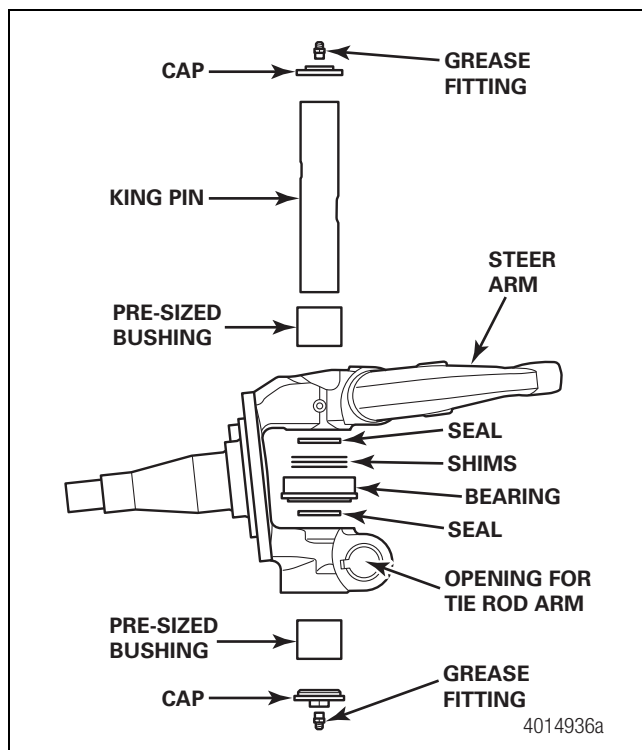
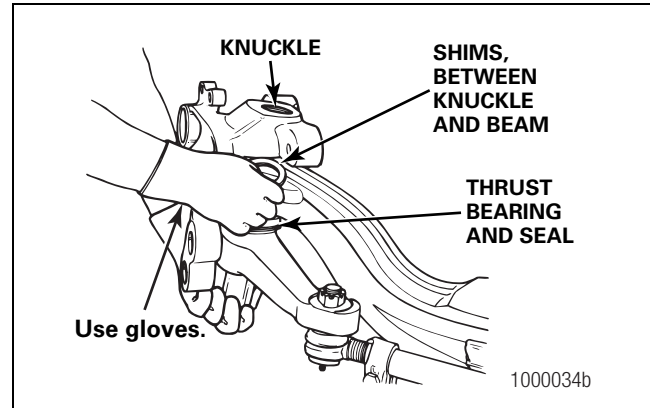

Figure 1
Figure 4
This publication provides instructions for installing Meritor ReadySet no-ream king pin kits. Each kit includes four bronze pre-sized bushings. These kits can be used to service Meritor front non-drive steer axles. Figure 1.
- Reinstall the knuckle assembly to the axle with the new king pin and thrust bearing. Add shims until the fit is snug and the thrust bearing requires a slight tap to align with the king pin. Figure 1 and Figure 4.